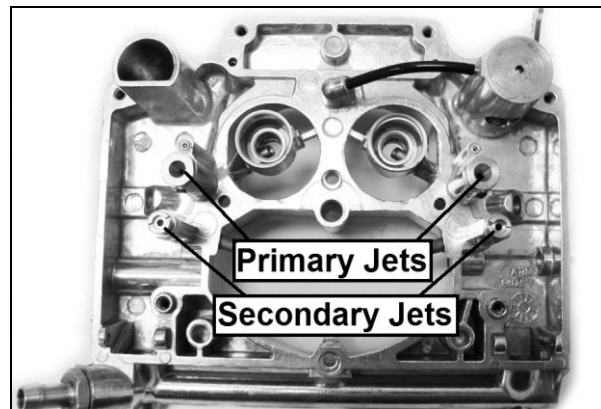
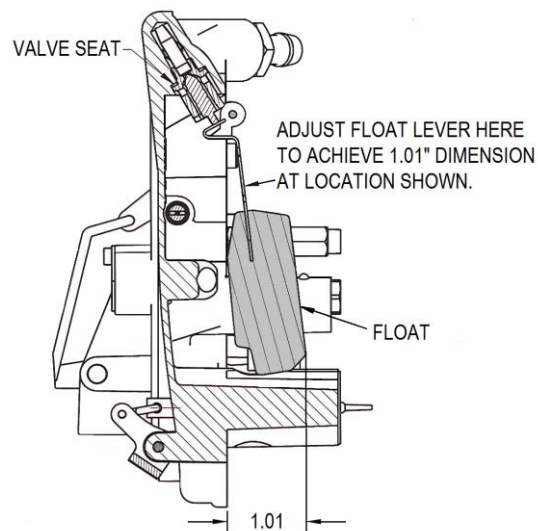

Figure 25
Figure 26
8. Invert the air horn to access the primary and secondary metering jets (Fig. 25). Check and adjust the float level (Fig. 26).